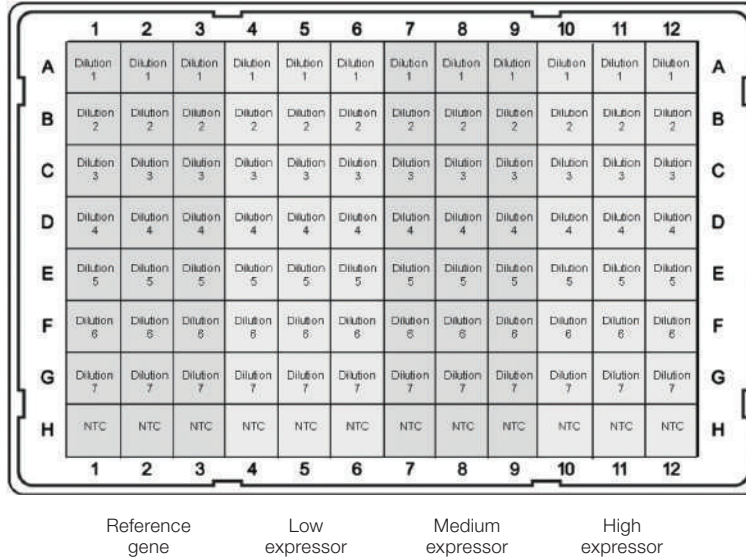

Fig. 5. A recommended plate layout.
5. Prepare the real-time PCR plate (Figure 5) and cycle according to the recommended protocol.